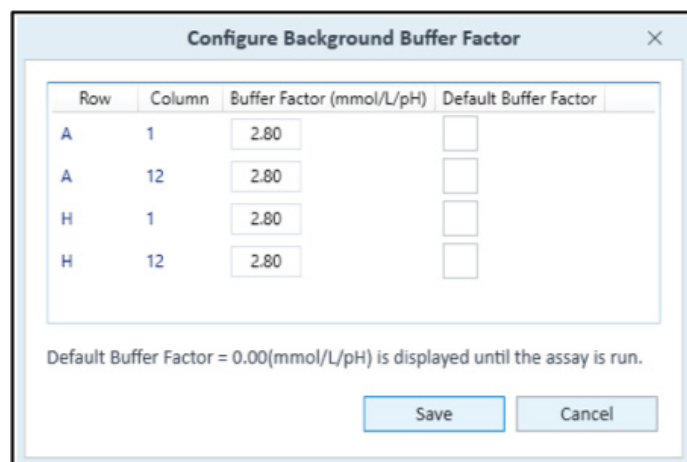

Figure 5. Type in the same buffer factor value.
- Under **Buffer Factor (mmol/pH)**, type in the same Buffer Factor value and click **Save**. (See Figure 5.)